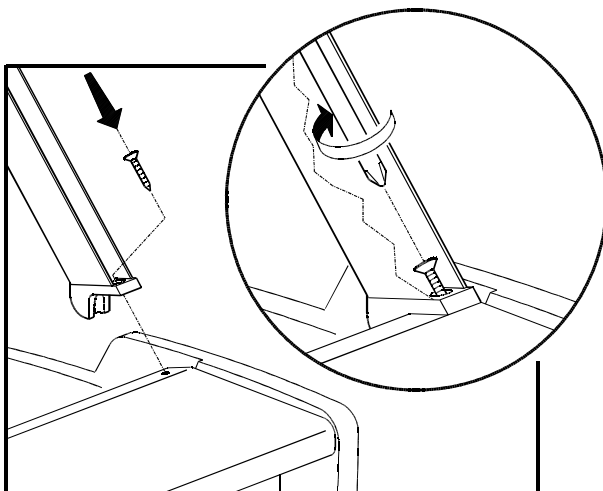
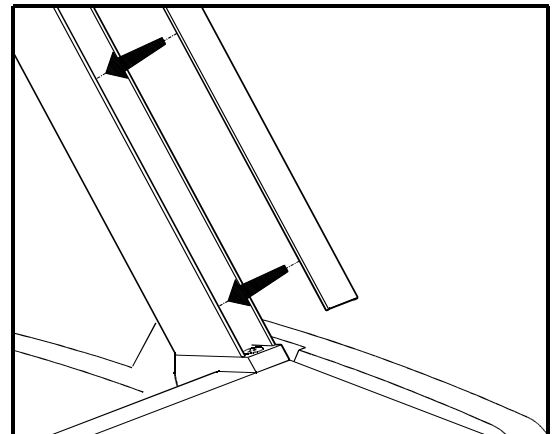

FIG. 6
FIG. 7
- Position the superstructure on the working shelf and fasten the uprights with the screws provided, inserting them in the holes drilled (FIG. 6 page 2). After fastening them, close the upright with its rear covering (FIG. 7 page 2).